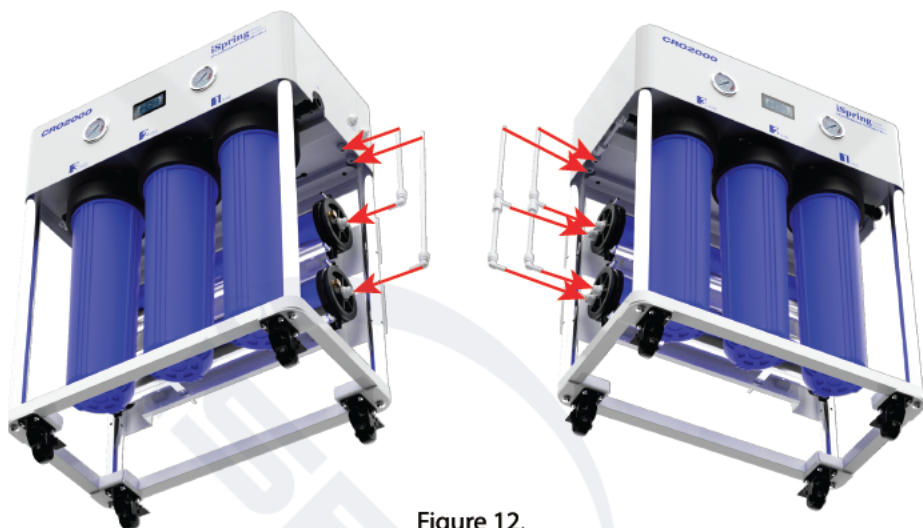

Figure 12.
7. Connect the left and right sides of the machine head to the RO membrane using the pre-assembled fitting and tubing, as shown in Figures 12. The set includes a 3/8" elbow quick fitting.